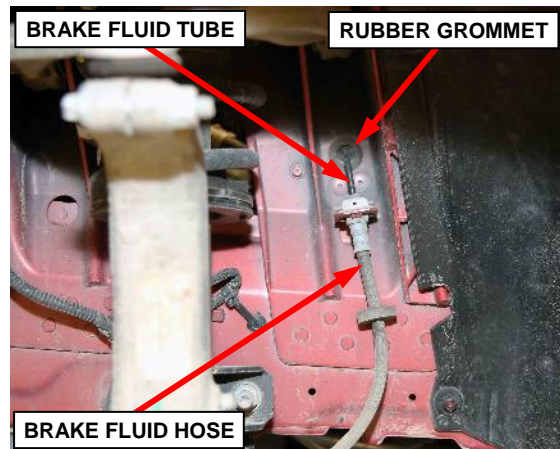

Figure 42 – Brake Fluid Tube
59. Release the rubber grommet from the strut tower (Figure 42).
60. Disconnect the brake fluid tube fitting of the rigid tube from the right front brake flexible hose fitting (Figure 42).
69. Fasten the rigid brake fluid tube to the flexible right front brake fluid hose and tighten to 16 N·m (12 ft. lbs.) (Figure 42).